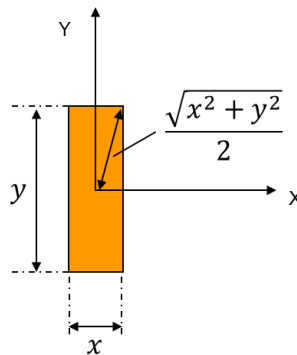

Fig.6.14.6 (a) Calculation of the generation line
- In the case that the [Rectangle] is selected as the [Part Type] at the parent conveyor, the value is the half length of the diagonal line on the rectangle. This value is computed from the value(x) set at [X length] of [Part Parameter] and the value(y) set at [Y length] of [Part Parameter] as shown in Fig. 6.14.6 (a).